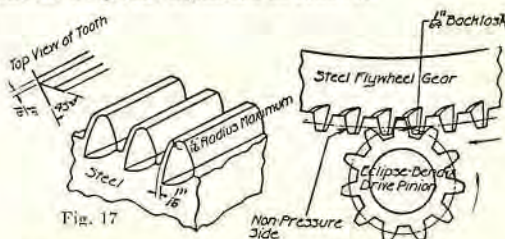

Fig. 17
4. The radius on the meshing edge of the ring gear should not be over $1/16''$ as shown in Fig. 17.